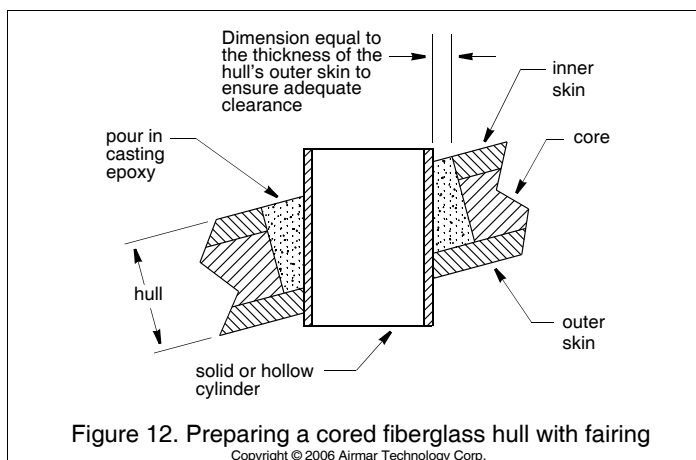

Figure 12. Preparing a cored fiberglass hull with fairing
**Fairing**—Drill perpendicular to the *waterline* (Figure 12).